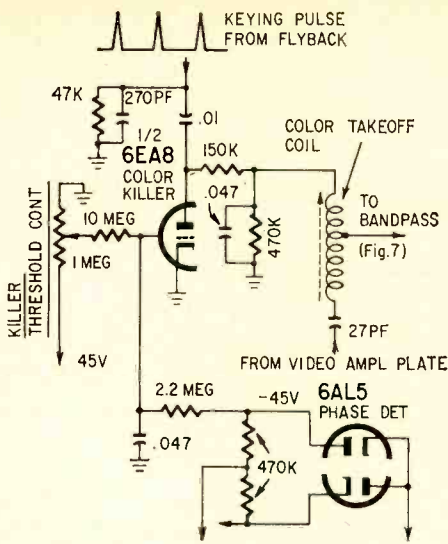

Fig. 8—Color killer. It, too is keyed by pulse from flyback.
8. Color Killer (Fig. 8). What's this for? Its only purpose is to cut off the bandpass amplifier during black-and-white transmissions. Some men have had trouble understanding the thing, because it "works backward," in a way. During color reception, the killer is cut off, and the bandpass amplifier works. During black-and-white reception, the killer works (conducts, that is) and the bandpass amplifier's cut off.